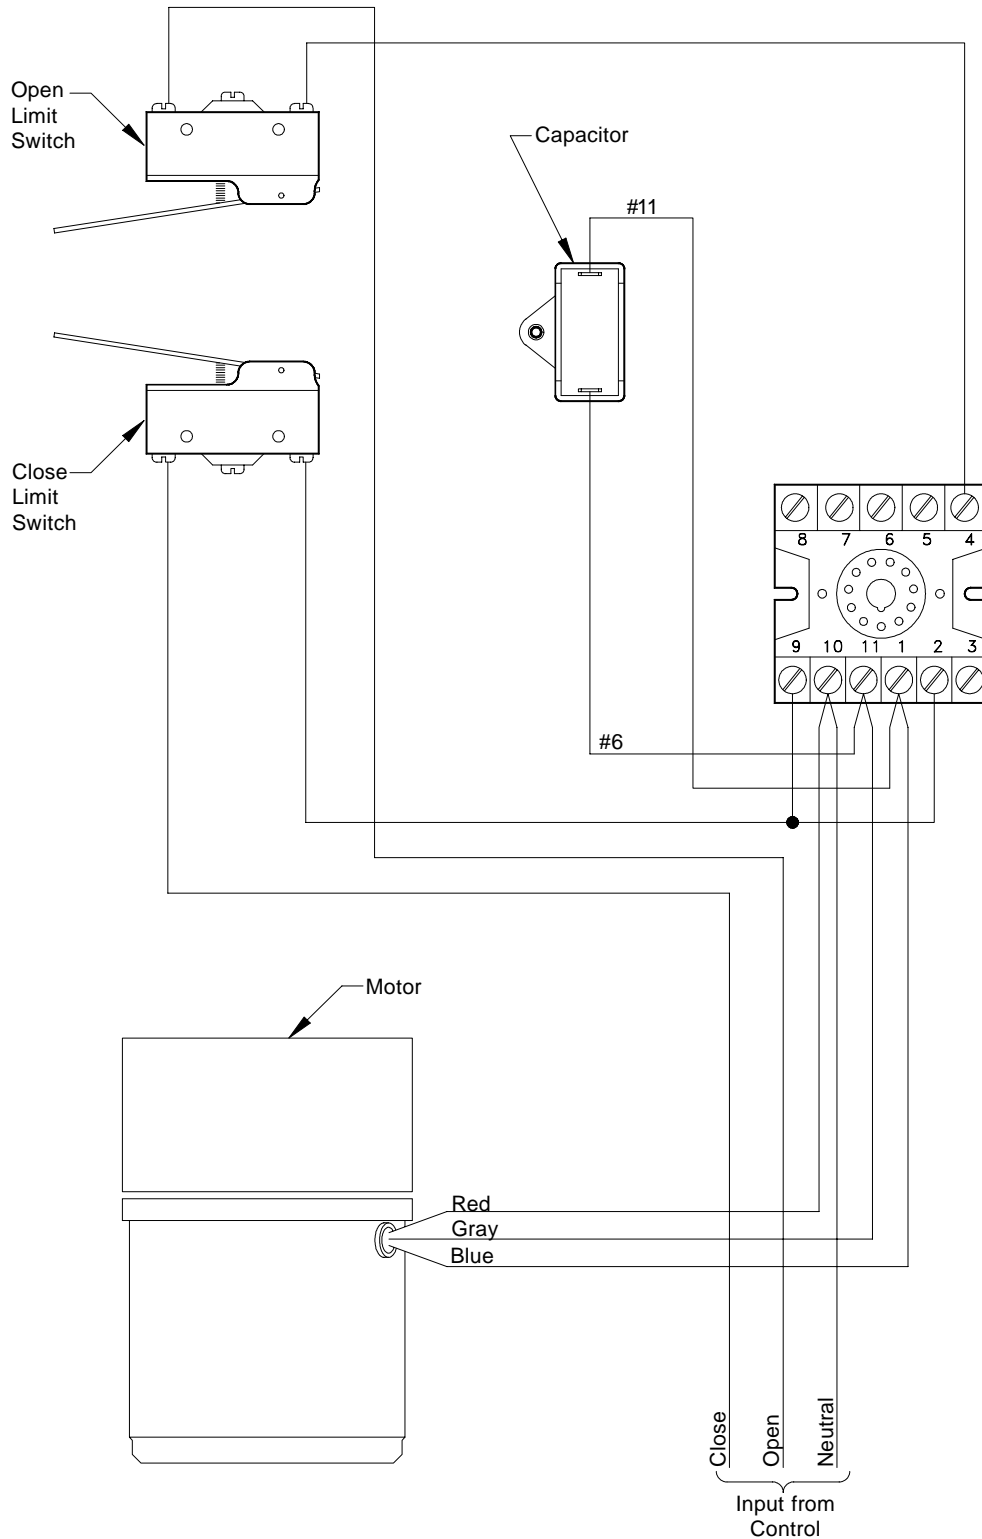

Figure 3B
- 12) Test wiring by running actuator in OPEN direction. While opening, activate open limit switch, making sure actuator motor stops. Test the CLOSE direction also. While closing, activate close limit switch, making sure actuator stops. If problem occurs verify correct wiring with Exploded View, **Figure 3B**.